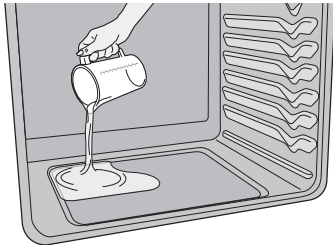

Figure 22: Add 1 cup of tap water
3. Pour 1 cup of tap water onto the oven bottom. (Figure 22) Close oven door.